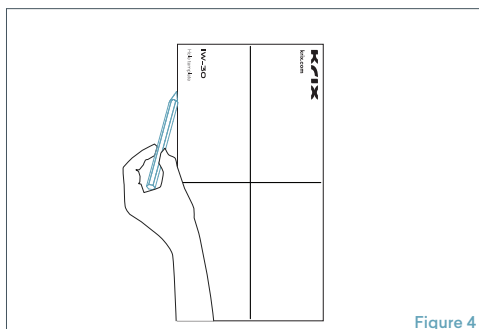

Figure 4
- Use the paper template marked 'symmetrix template' to trace the required cut-out onto the wall/ceiling. **(Figure 4)**